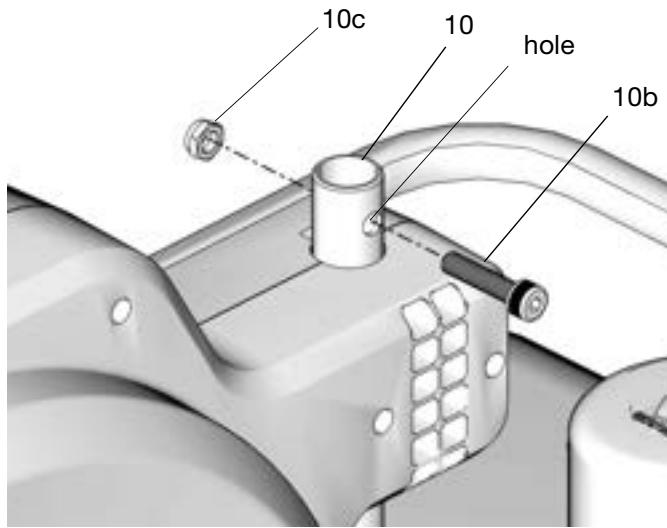

FIG. 18
4. Install the screw (10b) through the hole in the reel bracket (10) and secure in place with the nut (10c) to hold the hose reel securely in place (FIG. 18).